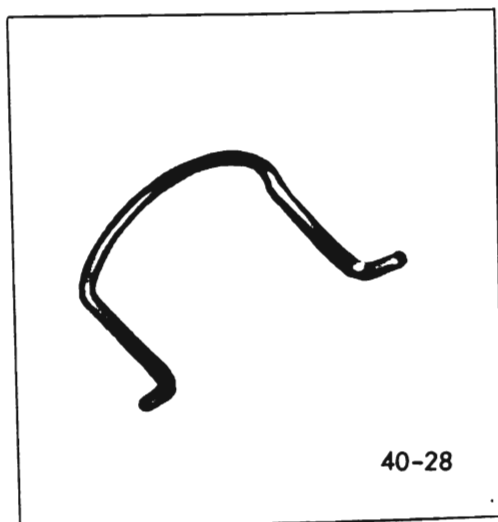

Figure 40-34 - Valve Tension Spring
**NOTE:** *Tension spring has one short foot and one long foot. The short foot fits under the distributor valve and the long foot fits into a hole drilled at an angle in the boss. See Figure 40-34.*